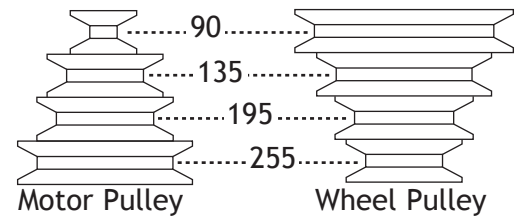

Figure 29. Blade cutting speed chart.
2. Refer to **Figure 29** and match the workpiece material with the suggested blade speed, and then find the correct pulley ratio to get that blade speed.